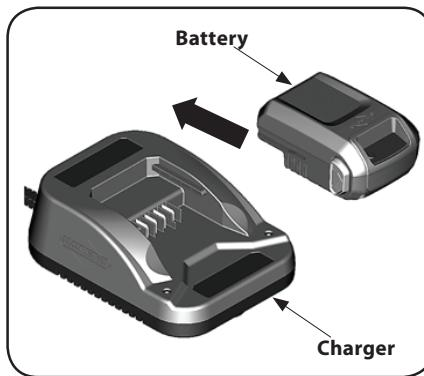

Figure 4-11
- Slide the battery pack firmly into the battery charging bay. See Figure 4-11. If the red charging light does not come ON, remove the battery pack and reinstall. Make sure the battery pack is firmly seated in battery charging bay.